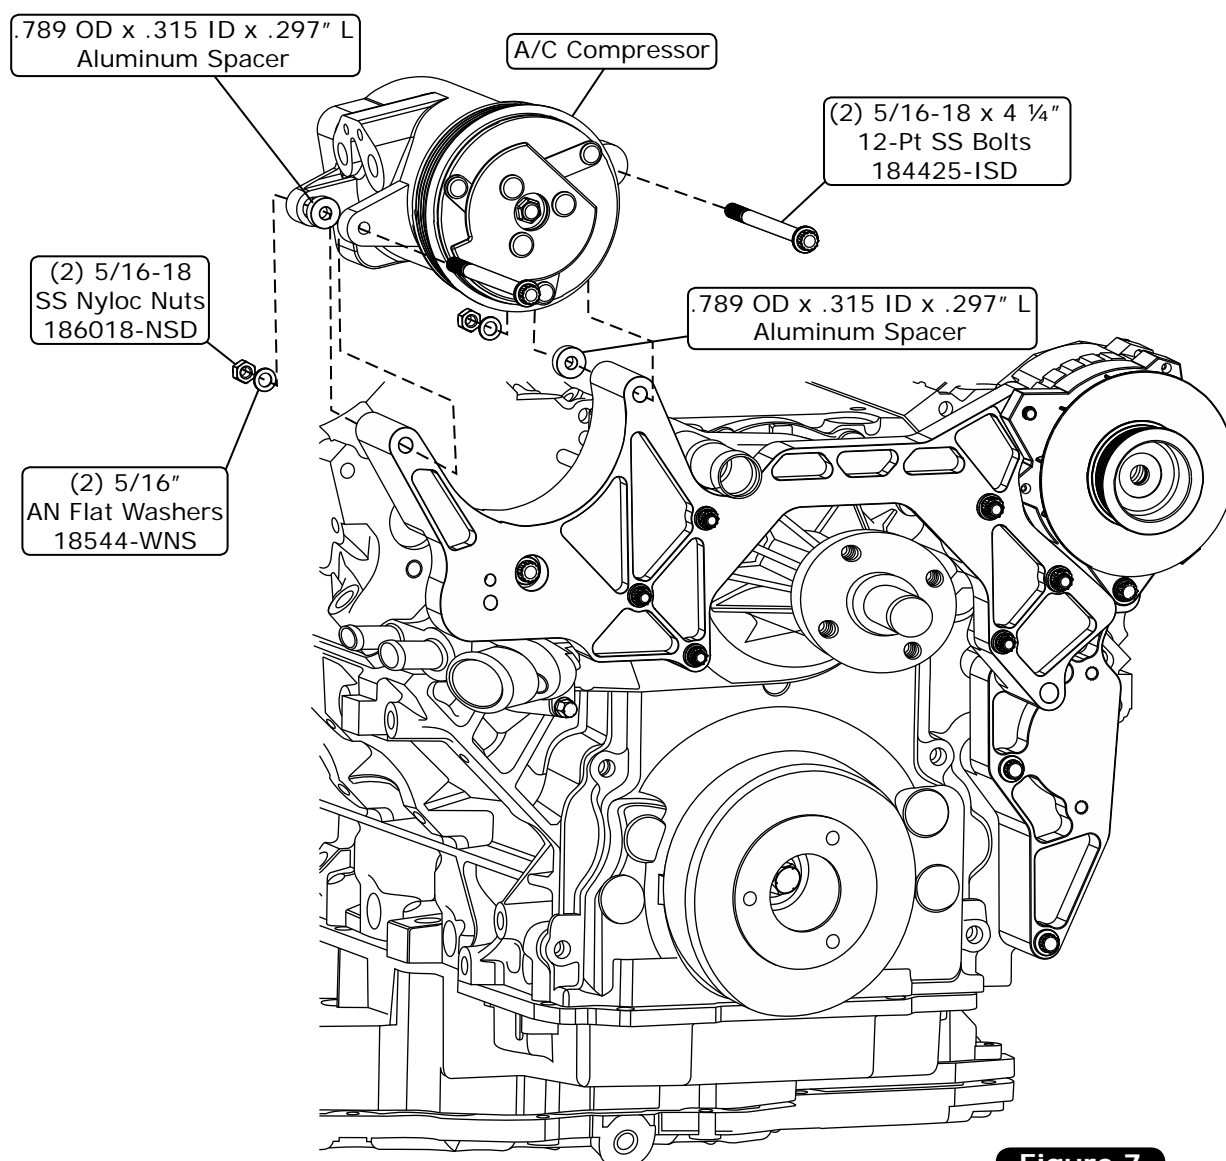

Figure 7
1. Install the A/C compressor as shown in Figure 7, below.
2. Install (2) .789 OD x .315 ID x .297" L aluminum spacers between the compressor and the main bracket assembly, along with (2) 5/16-18 x 4 1/4" 12-Pt SS bolts, (2) 5/16" AN flat washers and (2) 5/16-18 SS nyloc nuts (See Figure 7, below). The compressor mounting ears contain sliding bushings that are drawn in and clamp to the bracket when compressed. Torque to 25 lb ft.